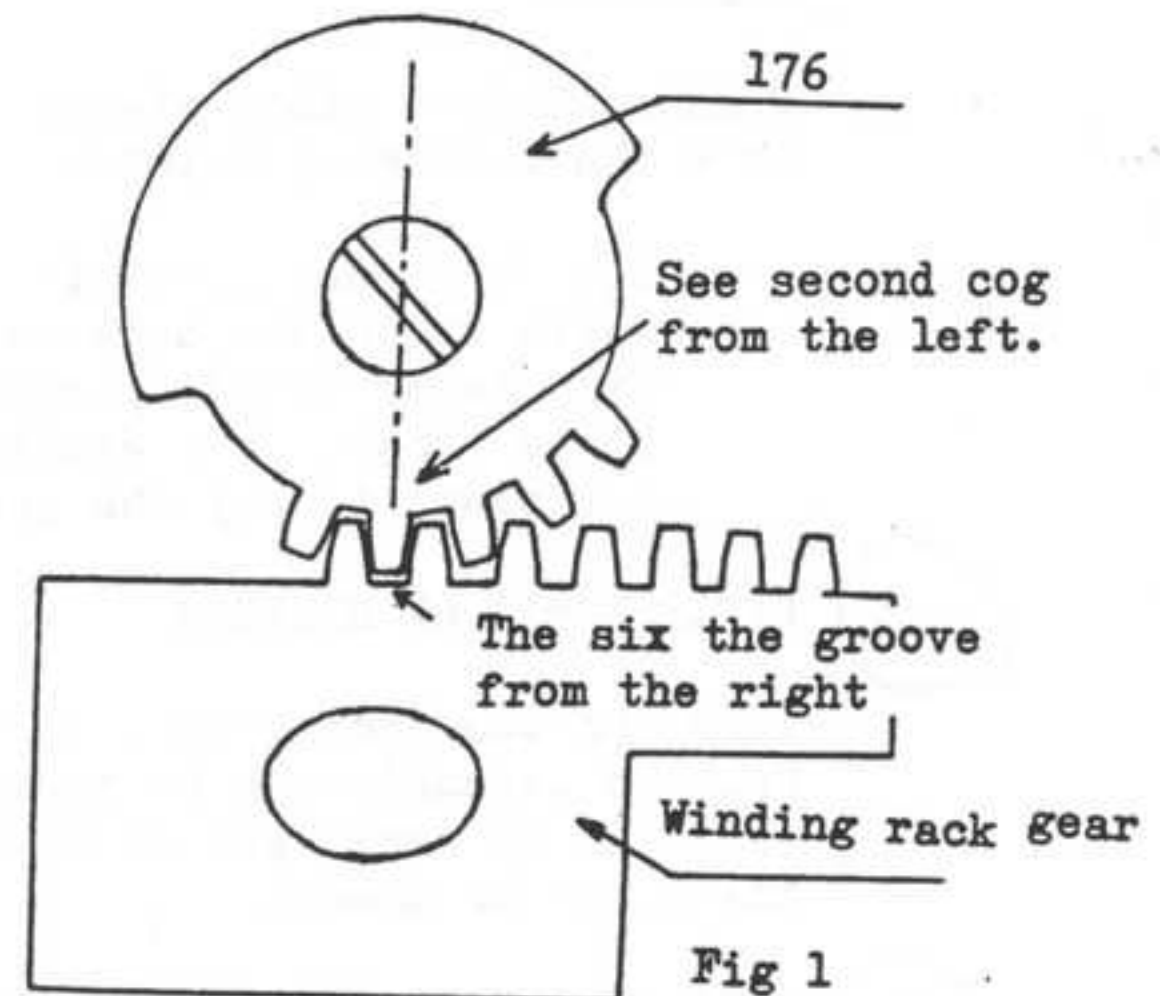

Fig 1
The gear engagement between Shutter set gear plate (176) and the rack on Winding gear plate must be done as shown in Fig. 1.